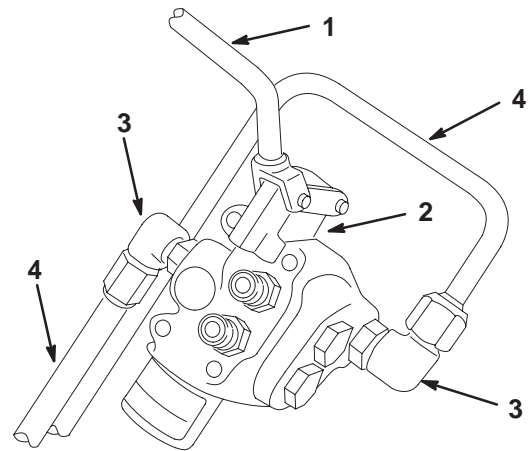

Figure 2
9. With valve positioned on right fender, use it as a template to locate, mark and drill (3) 17/64" dia. holes in right fender (Fig. 2). Tube assembly must be at least 1-3/4" from frame.
10. Secure valve assembly and pivot lever to fender with (3) 1/4 - 20 x 2-3/4" Ig. capscrews and 1/4-20 flange locknuts (Fig. 2). Tighten tube assemblies to valve.
12. Mount control valve handle to valve spool with a clevis pin and cotter pin. Mount pivot lever to handle with a roll pin (Fig. 2).